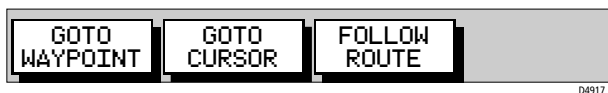

Figure 3-39: GoTo Soft Keys
- To access the Goto/Follow soft keys, press the GOTO default soft key; the GOTO soft keys are displayed as shown in *Figure 3-39*.
1. Press the GOTO default soft key to display the Goto/Follow soft keys (*Figure 3-39*).